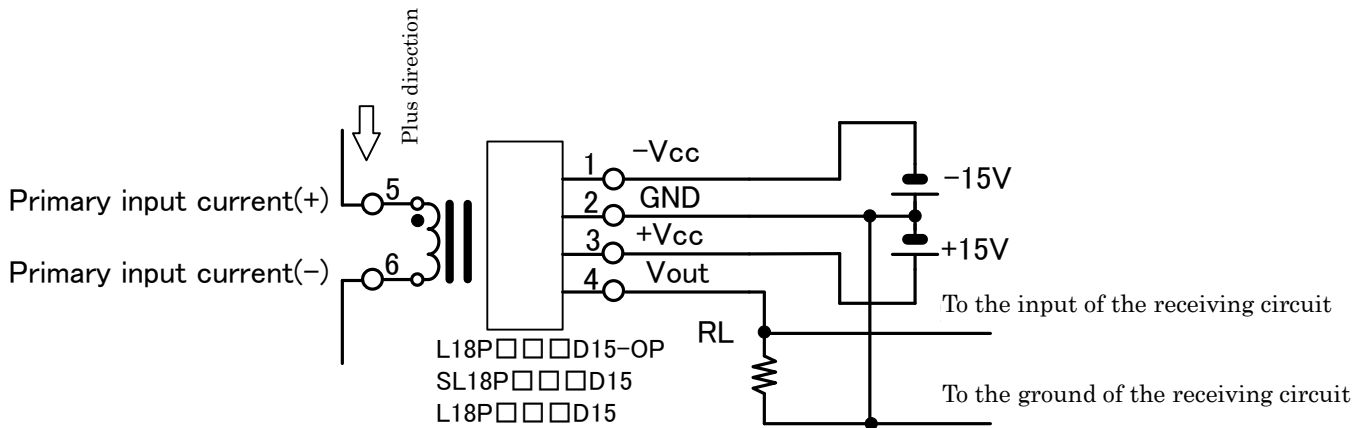

Fig. 5: L18P□□□D15-OP SL18P□□□D15 L18P□□□D15
□ Description of Fig. 5
This current sensor converts measured current into a voltage. The output voltage V_{out} (4) in Fig. 5 is output on the basis of the GND potential. When the current to be measured is 0, V_{out} (4) = 0V. When the current to be measured is in the plus direction ((5) \Rightarrow (6)), V_{out} (4) becomes + (voltage converted from the measured current). When the current to be measured is in the minus direction ((6) \Rightarrow (5)), V_{out} (4) becomes - (voltage converted from the measured current).
$R_L = 10 \text{ k}\Omega$ in Fig. 5 is the equivalent resistance of the receiving circuit of the current sensor output V_{out} (4). The load resistance between the V_{out} terminal (4) and the GND potential (2) is a standard one of $10 \text{ k}\Omega$.